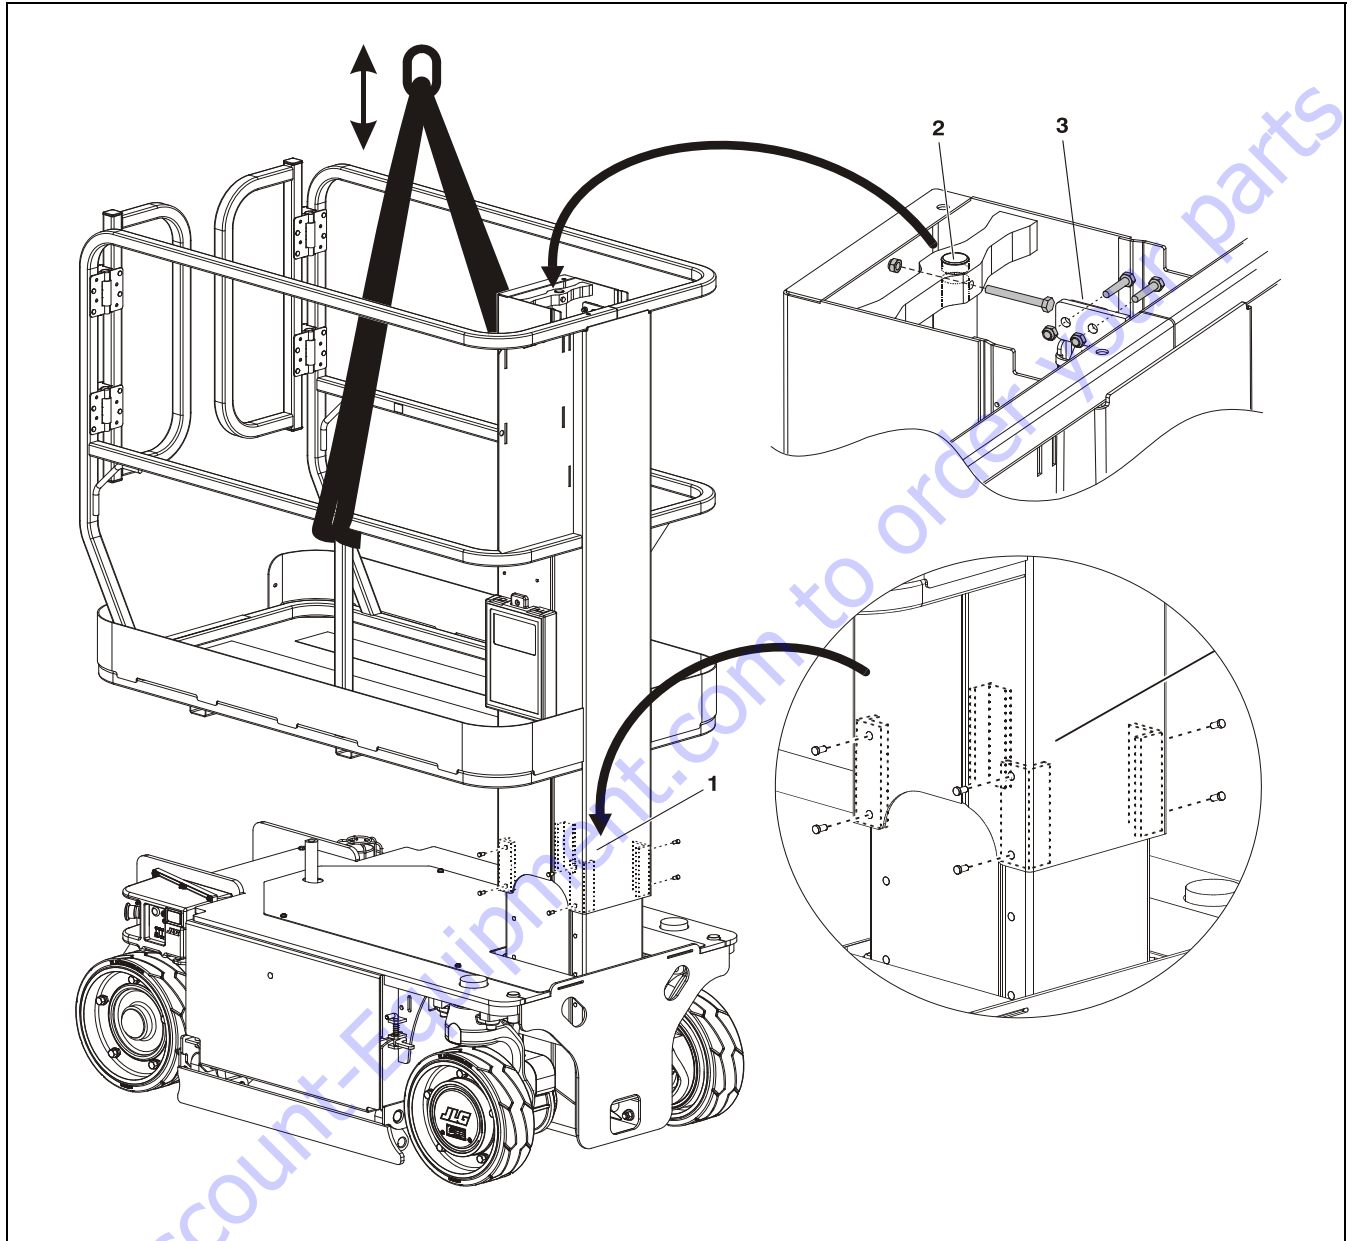

Figure 6-5. Platform to Mast - Installation
2. Support platform for later liting, with either an overhead crane or a fork truck attaching a lifting strap to remove the platform once the following steps are completed. (See Figure 6-5.)
4. At the four bottom corners of the outer mast section, remove the pop rivets securing each slide pad to the mast section. (See Figure 6-5.) - Item 1. Two (2) rivets per slide pad. The pads may not slide out of the mast section until the platform is lifted later and the upper slide pads on outer-mid section pushes them out.
8. At the top of the mast, (See Figure 6-5.) - Item 2) the cylinder rod for hydraulic cylinder #3 is attached to platform mast section cross support with a bolt and nut through a detent on the side of the rod. Remove the locking nut from the hex head bolt holding the cylinder rod in place to the mast cross support. Remove the bolt from the cross support. It may be necessary to lift or lower slightly on the platform assembly with the lifting strap to remove the bolt.
9. Also at the top of the mast opening, (See Figure 6-5.) - Item 3) remove the two (2) bolts and nuts attaching the power-trak cable guide to the platform rail for the AC receptacle and platform control station electrical cables.
3. Lower the platform assembly approximately half way down the mast, then reinstall the slide pads at the bottom corners of the platform mast section. (See Figure 6-5.) - Item 1.
4. Continue to lower the platform assembly, at the top of the mast guide the cylinder rod of hydraulic cylinder #3 into the cross support located at the top of the platform assembly mast section. Install the detent bolt and nut, tighten securely. (See Figure 6-5.) - Item 2.
6. Reattach the power-trak cable guide using the two (2) bolts and nuts to the lug at the top of the platform mast section. (See Figure 6-5.) - Item 2.
7. Route the electrical cables down the right side of the mast section and reinstall the metal cable cover using the two (2) screws previously removed.